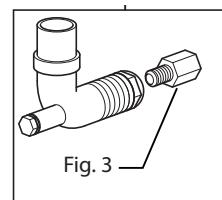

Fig. 3
- Unscrew the injector (Fig. 3)